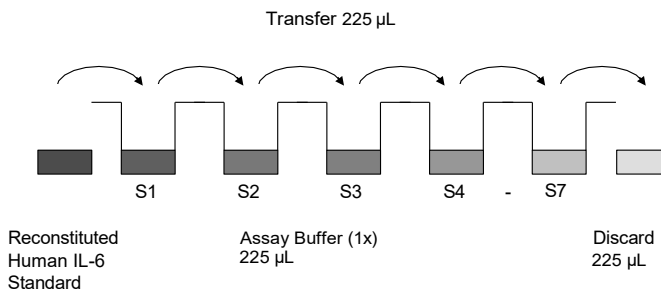

Fig. 6 Dilute standards - tubes.
5. Repeat serial dilutions 5 more times thus creating the points of the standard curve (see Figure 6).